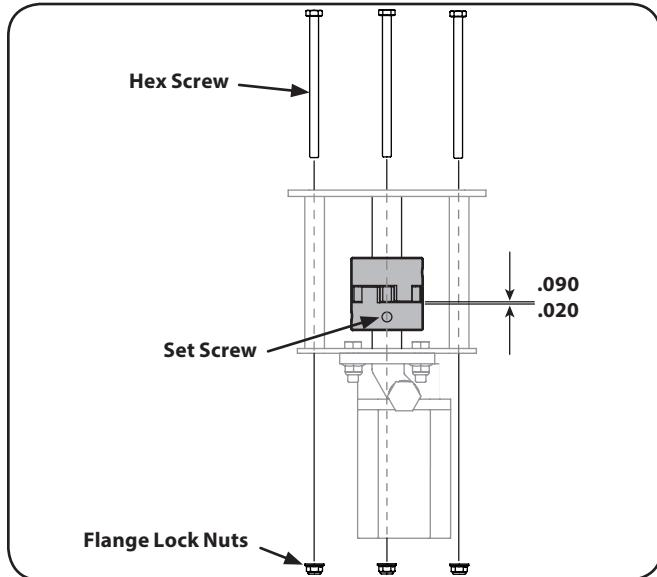

Figure 7-1
2. If your engine has a horizontal engine set-up shown in Figure 7-1, see Figure 7-1 for changing the hydraulic fluid. If your engine has a vertical set-up shown in Figure 7-2, see Figure 7-2 for changing the hydraulic fluid.
3. Disconnect the suction hose from the bottom of the reservoir tank. See Figure 7-1 for horizontal engines or Figure 7-2 for vertical engines.
2. Remove the three flange lock nuts and hex screws that secure the pump to the coupling shield. Two flange lock nuts and hex screws are at the bottom corners and one is in the top center. See Figure 7-1.
11. Set .020" to .090" of a clearance/gap between the nylon "spider" and the engine coupling half by sliding a feeler gauge between the nylon "spider" and the engine coupling half and moving the pump coupling half as needed. Install the set screw and torque to 78 in-lbs to secure the pump coupling half. See Figure 7-1.